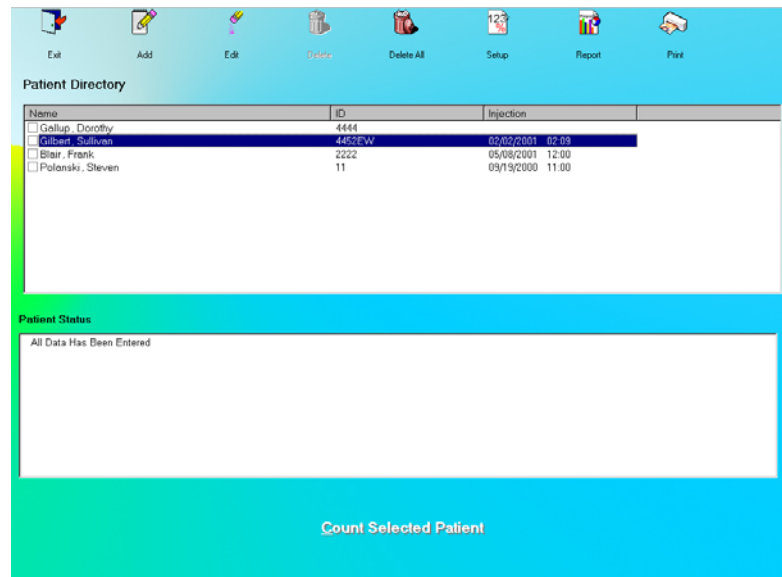
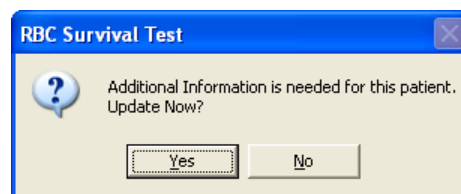
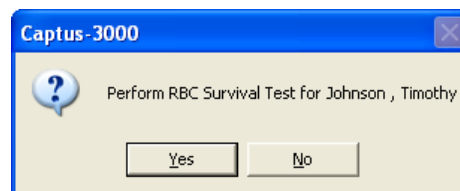

Figure 10-67
Figure 10-68
Figure 10-74
1. To select (highlight) a patient to be edited, use the ↑ ↓ keys or *Page Up* and *Page Down* keys to move up or down in the patient list. If the list is long, the scroll bar is also available. To reach a particular patient, press the first letter of the patient name. Press the ↓ key if necessary, to go further down (Figure 10-67).
Selecting a patient with partially entered data will prompt you with the screen shown below (Figure 10-68). Click the  button or press the *Y* key to update the patient information or click the  button or press the *N* key to return to the Main RBC Survival Test screen (Figure 10-67).
3. Click the **Start Procedure** button or press *Alt+S* to begin the test. Figure 10-74 will appear confirming the selected patient. To cancel the test or if the incorrect patient was selected, click the **No** button to return to Figure 10-67, otherwise click **Yes** to continue.